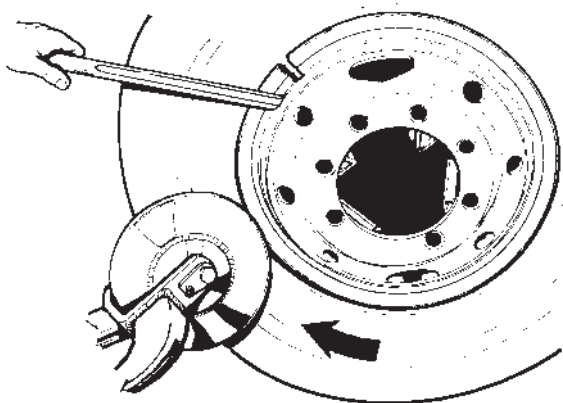

Fig.33
3. Mount all the assembly components (Fig.33).